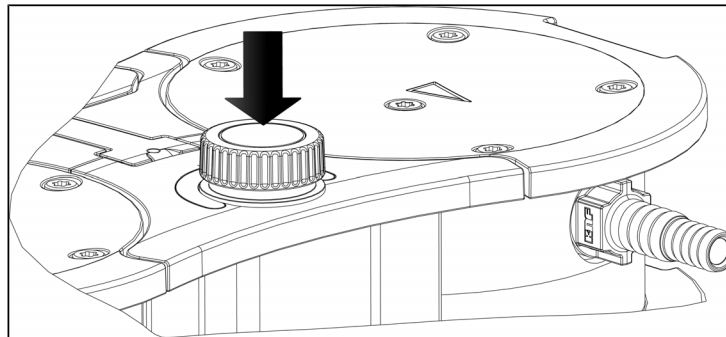

Fig.6: Switching the pump on and off with rotary/push knob
- Switch on the pump by pushing the rotary/push knob (see Fig. 6).